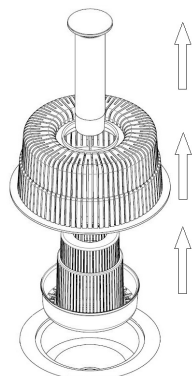

Fig.25
- 2- Manually remove the overflow and the filters. (Fig.25)